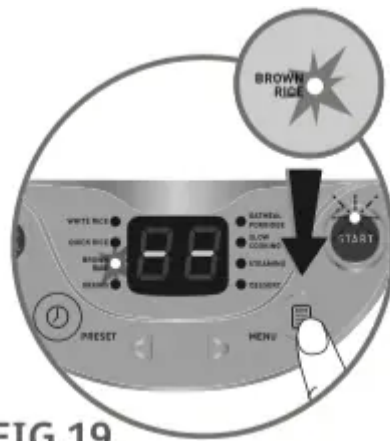

FIG.19
- Press "Menu" button while in standby mode until the "Brown rice" indicator light turns on, the digital screen will display "90" and the "Start" indicator light will flicker – Fig.19. Press the "Start" button, the cooker will enter "Brown rice" cooking model, the "Start" indicator light will remain on and the digital screen will display the countdown time – Fig.17.